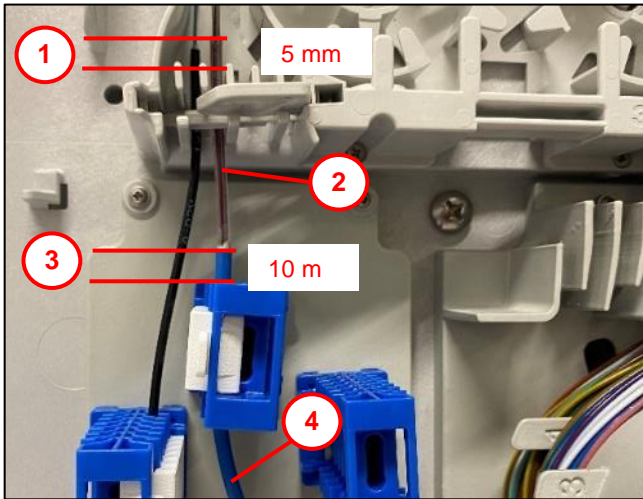

Fig. 35
- Press the micro cable **(1)** into the clamping positions **(2)**, referring to Fig. 35 for the length to be stripped above the clamping positions.
- Strip the optical fibre micro cable **(1)** above the optical fibre guide duct **(2)** (see Fig. 35 for the length to be stripped).